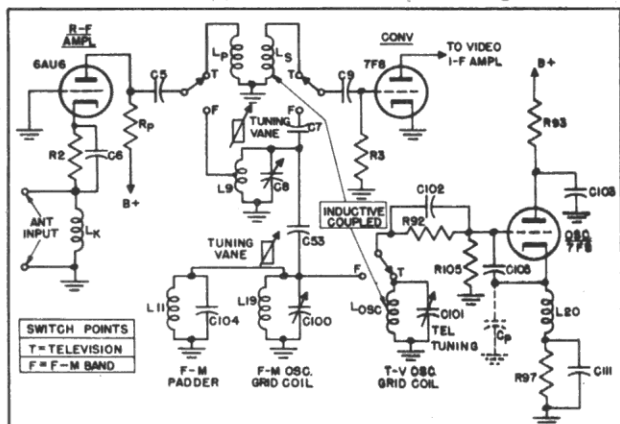

Fig. 2. Television and FM R-F Amplifier, Converter and Oscillator
**1. R-F AMPLIFIER, CONVERTER AND OSCILLATOR (SEE FIGURES 2 AND 3)**—The television and FM r-f amplifier makes use of a Type 6AU6 tube connected as a triode grounded-grid amplifier. The antenna is connected into the cathode circuit so as to provide a substantially constant input impedance of 300 ohms to the antenna at all frequencies. With a 300-ohm antenna and transmission line system, this coupling arrangement permits optimum transfer to signal from antenna to r-f amplifier for all 13 channels and also prevents reflections from being set up on the transmission line. R2 is the normal bias resistor. A choke, L1, is placed in series with this cathode resistor to prevent the input impedance from being lowered by the shunting effect of the total stray capacity to ground of the cathode of the tube. The choke value is changed for different channels.